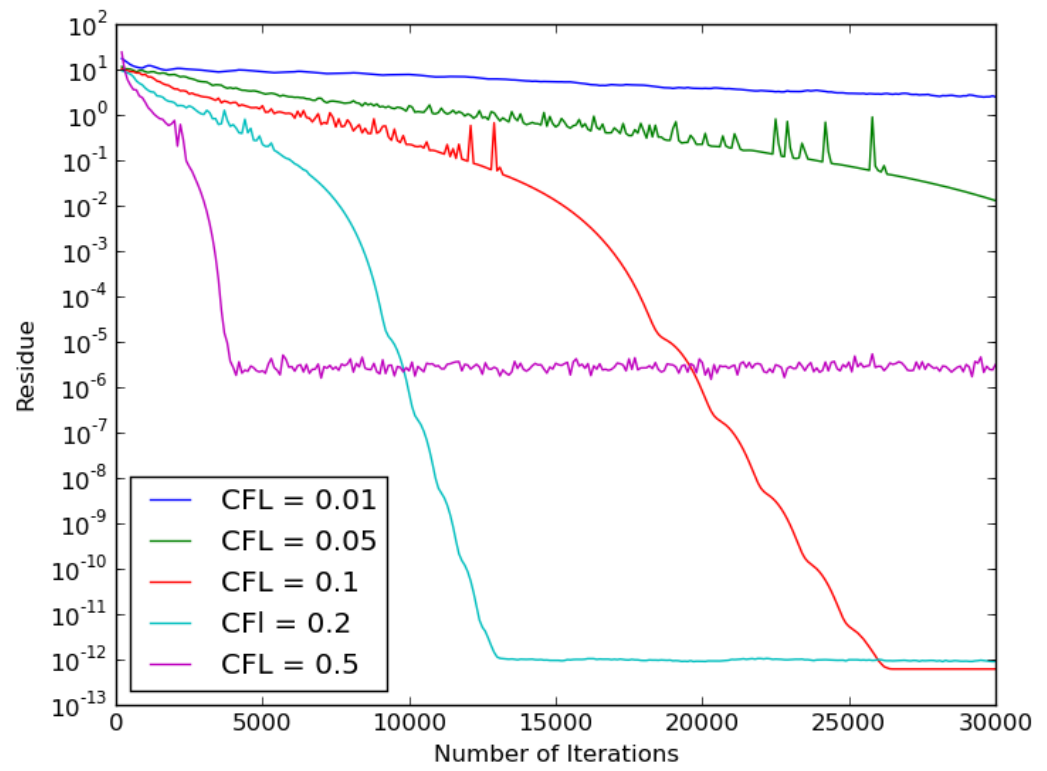

Figure 5: Plot for Comparison of Residue vs. Number of Iterations for different CFL number
7. From figure 5, it can be concluded that as CFL number increases, residue decreases upto certain value and then starts increasing. Also, as CFL number increases convergence rate increases.